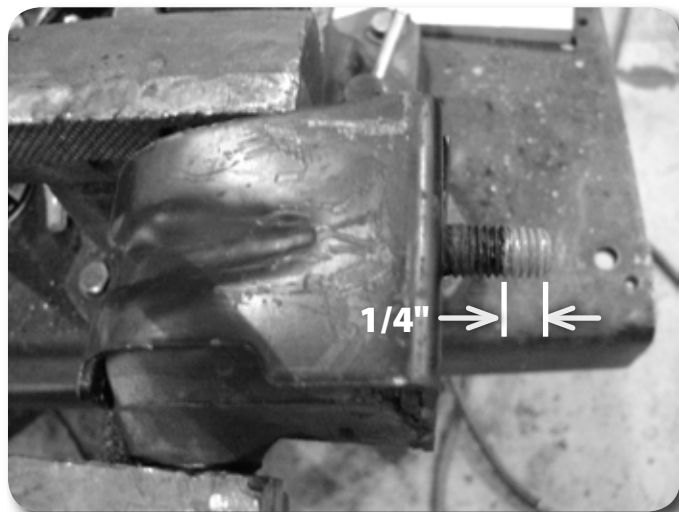

FIGURE 4a - Before Cut
11. Locate the motor mount and using a hacksaw or appropriate cutting tool, cut 1/4" of threads from the end of the engine mount stud to leave a 1/2" of threads remaining. Take care not to damage the threads. Figure 4a-b. Take care not to remove too little or too much of the thread to ensure proper thread engagement with the mating hardware to be installed.